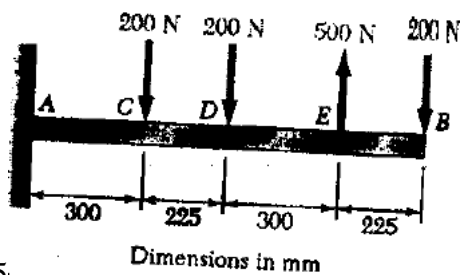

Fig 5
- b. Draw the shear and bending-moment diagrams for the loading shown in Fig 5 and determine the absolute value of (i) the shear [8]